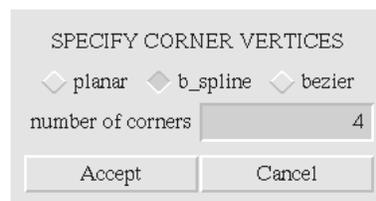

Figure 5.2. The **SPECIFY CORNER VERTICES** dialog box.
- The user has the option of specifying the type of face and the corner vertices of the face. Press the **Specify Corner Vertices** button before collecting the edges and a dialog box will appear, Figure 5.2, which will allow the user to specify the type of face and number of corner vertices. Consistency checks are done after the edges are collected to ensure that the specified face type is valid.